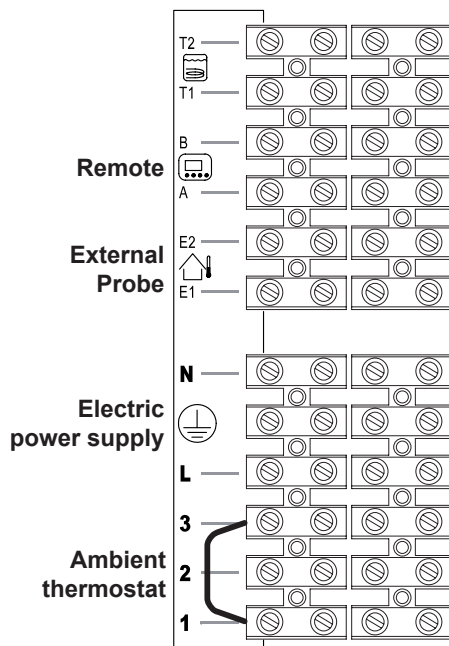

Fig. 6.28
Use the clamps indicated in Fig. 6.28 to connect the external probe.
Use the clamps indicated in Fig. 6.28 to connect the remote.
**Do not remove the electric jumper connected on the ambient thermostat terminal block between "1 and 3" Fig. 6.28.**